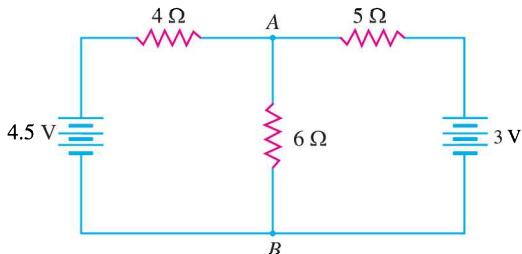

Fig. 1.50
4. Using Norton's Theorem, find the current in branch AB containing 6 Ω resistor of the network shown in Fig. 1.50. [0.466 A]